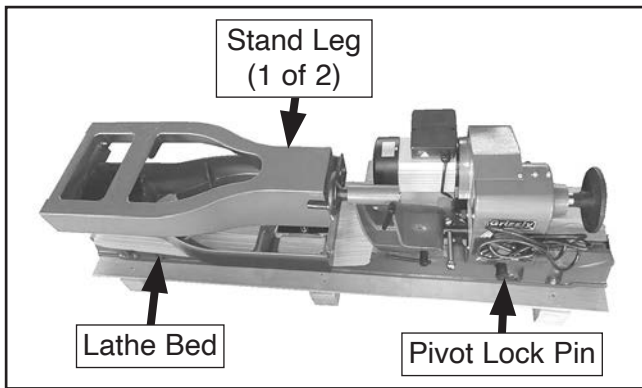
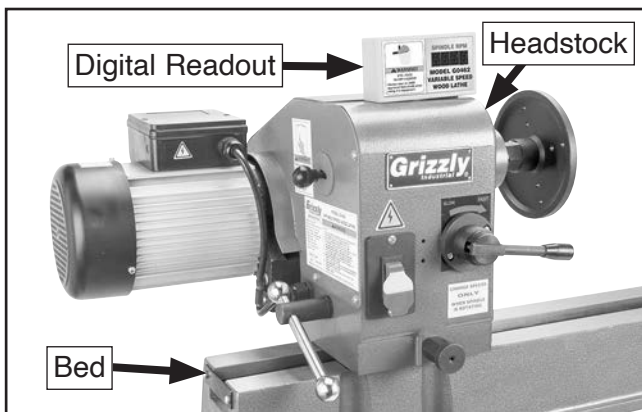

Figure 1. Machine as shipped.
Figure 2. Headstock positioned and assembled.
1. Remove (2) stand legs from lathe bed (see **Figure 1**).
3. Pull out pivot lock pin (see **Figure 1**), then pivot headstock 90° on bed (see **Figure 2**).
4. Attach digital readout to headstock with (2) pre-installed Phillips head screws, lock washers, and flat washers, as shown in **Figure 2**.